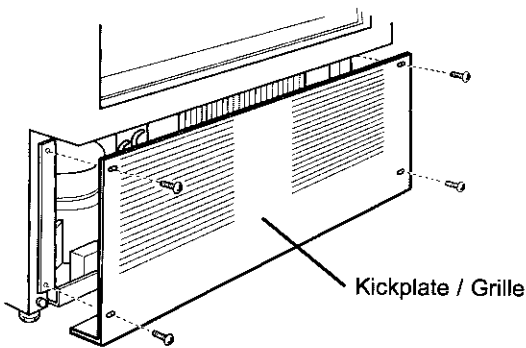

Figure 2-1. Kickplate/Grille Removal
**NOTE:** The kickplate/grille must be removed before leveling (See Figure 2-1).